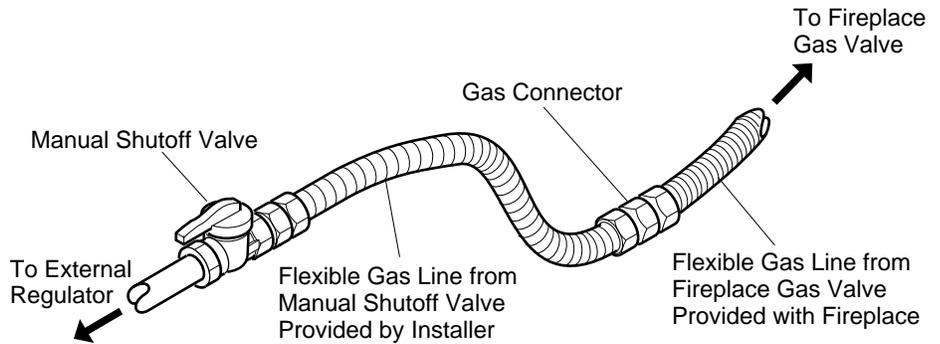

Figure 19 - Attaching Flexible Gas Lines Together
NOTICE: Most building codes do not permit concealed gas connections. A flexible gas line is provided to allow accessibility from the fireplace (see Figure 19). The flexible gas supply line connection to the manual shutoff valve should be accessible.
4. Apply pipe joint sealant lightly to male threads of gas connector attached to flexible gas line (see Figure 19). Connect flexible gas line to flexible gas line attached to gas valve of fireplace (see Figure 19).